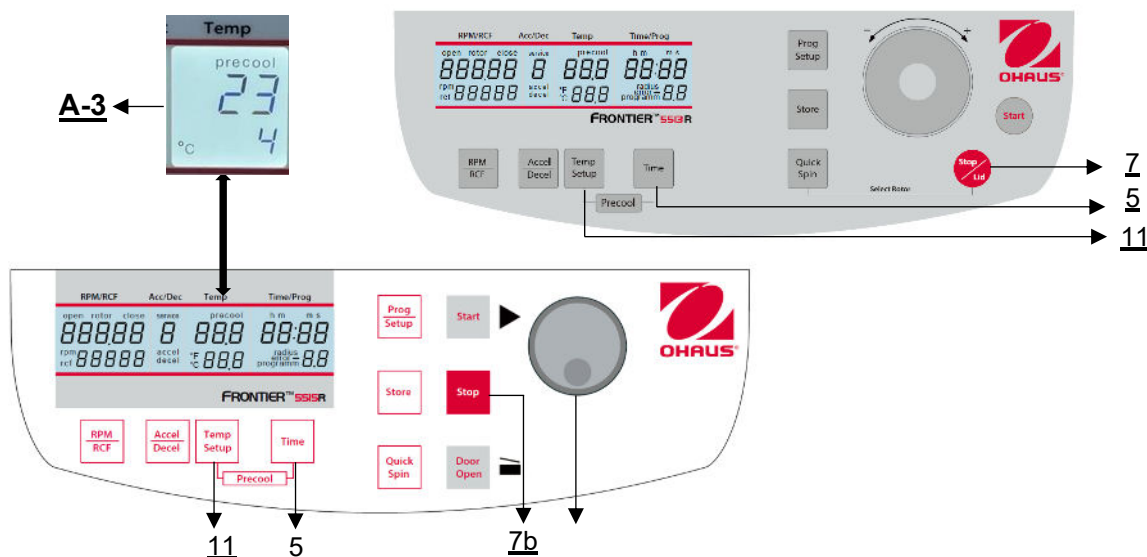

Figure 16
If the samples are temperature-sensitive it is useful to pre-cool the centrifuge, the rotor and eventually the buckets to the required working temperature. Therefore, insert the desired rotor and pre-set the respective temperature. By simultaneous pressing the keys "**Temp/Setup**" (11) and "**Time**" (5) you can start the run (**Figure 16**). While running, the unit chooses automatically a rotational speed that is equivalent to 30 or 50 % of the permitted rotational speed of the respective rotor (depending on the rotor). After the pre-set temperature is reached you can leave the pre-cooling run with the key "**Stop**" (7b) or "**Stop | Lid**" (7).